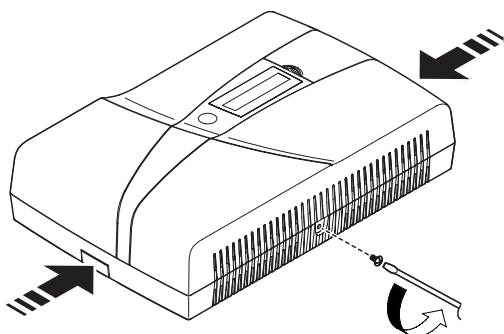

fig. 1
- open the cover by undoing the screw on the bottom of the Control unit (fig. 1).
- unhook the cover from the container by exerting slight pressure on the side "tabs" as shown in the figure (fig. 1).